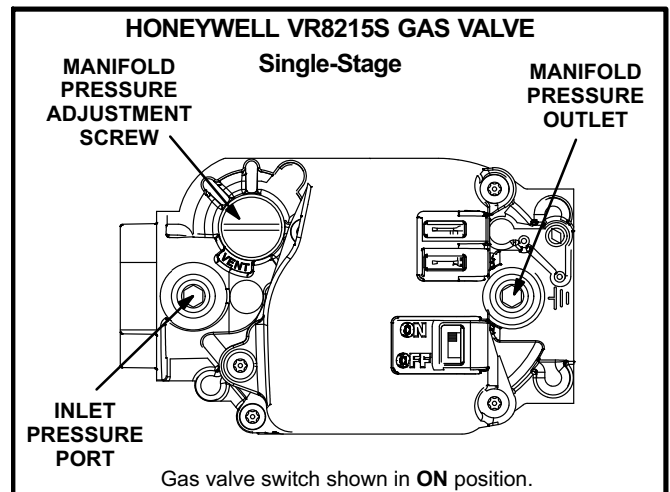

FIGURE 25
Gas Valve Operation for Honeywell VR8215S or White Rodgers 36J54 (figure 25 and 26)
- 6- Move gas valve switch to **OFF**. See figure 25 or 26.
- 7- Wait five (5) minutes to clear out any gas. If you then smell gas, **STOP!** Immediately call your gas supplier from a neighbor's phone. Follow the gas supplier's instructions. If you do not smell gas, go to the next step.
- 8- Move gas valve switch to **ON**. See figure 25 or 26.